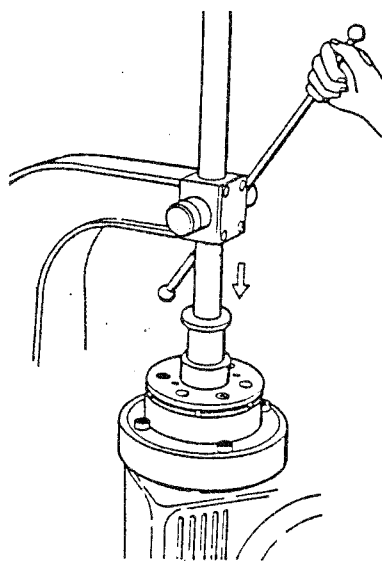

Fig. 11
(9) Press in the armature assembly until the specified value for the gap as given in Table 3 is attained. During this operation, apply pressure to the boss of armature hub (16). (Fig 11)